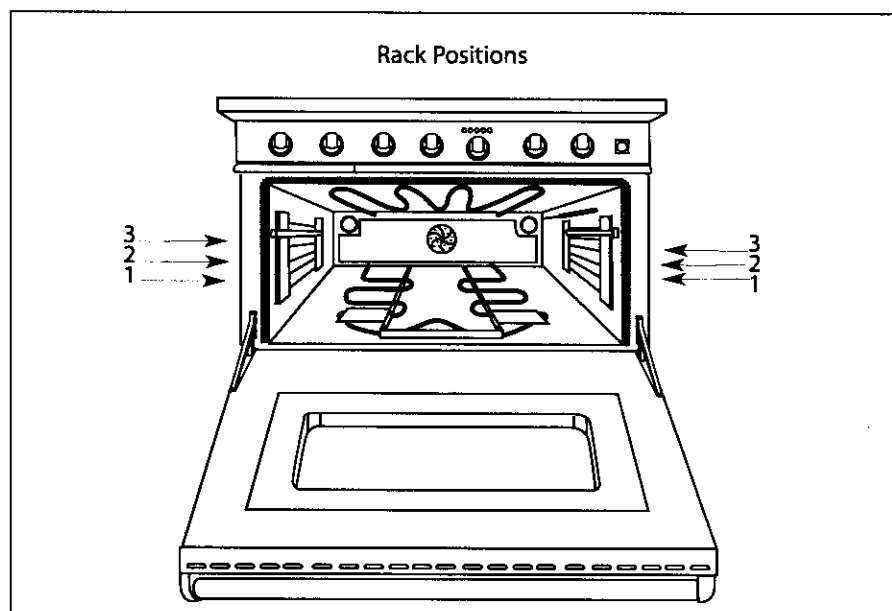

Fig. 1
- 2) Place the oven racks in the proper position before turning on the oven. For correct rack position check your recipe. The most frequently used position is number 2. The rack positions are numbered from the bottom as in the floors of a building. (Fig. 1)